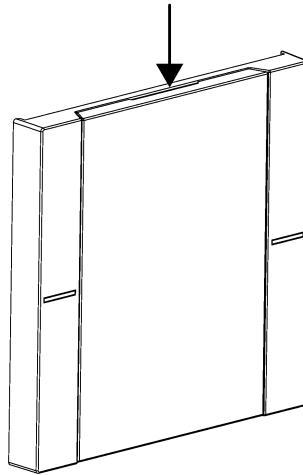

Figure 7: Feel for a notch in the labelling field cover
- Search for a notch in the cover of the labelling field by feeling with a finger (see figure 7).